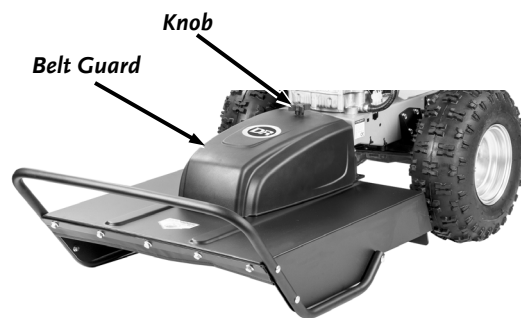

Figure 27
1. Unscrew the Hand Knob and remove the Belt Guard (**Figure 27**).
8. Install the Belt Guard back over the Belt and secure it with the Hand Knob (**Figure 27**).